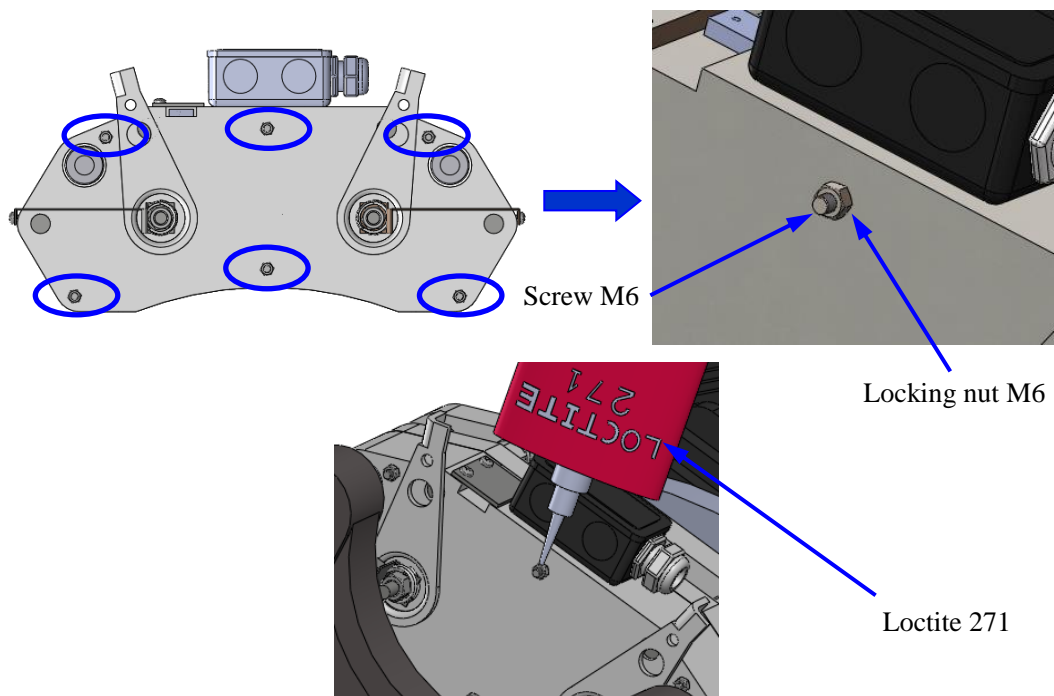

Figure 11: Brake Noise Adjustment
3. Use the same method to adjust the other 5 bolts shown in Figure 11.
7. Tighten the locking nut M6. See Figure 11.